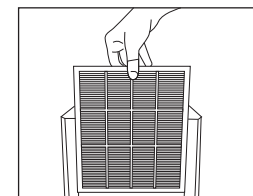

fig. 4
2. Catch the filtration mesh handle and move out (as shown in fig.4)